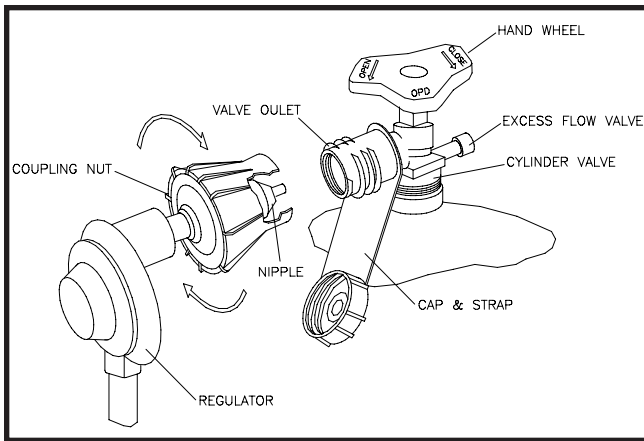

Figure 8. Coupling Assembly
7. With the Regulator in your hand, insert the Nipple into the Cylinder Valve. (See Figure 8.) Make sure the Nipple is centered in the Cylinder Valve outlet. Make sure you do not cross-thread the connection. Tighten the coupling nut only by hand, do not use tools. As the connection begins to seal, you will feel a slight resistance. Turn the coupling nut about one-half to three quarters of a turn further to complete the connection. If you cannot complete the final connection, disconnect the regulator and repeat step 7. If you are still unable to complete the connection, replace the valve and regulator!
2. For LP gas, open the Gas Cylinder Valve by turning the Handwheel counter-clockwise. (See Figure 8.) Then, wait 15 seconds prior to Step 3.
2. For LP gas, open the Gas Cylinder Valve by turning the Handwheel counter-clockwise. (See Figure 8.)